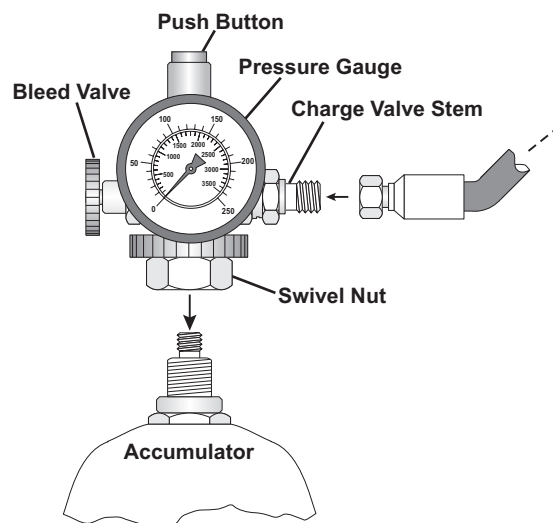

Figure 37
5. On the charge valve assembly (Figure 37), close the bleed valve (turn it clockwise all the way in). If a hose is connected to the charge valve stem, disconnect the hose from the charge valve stem. This step closes the charge valve stem to prevent the gas pressure from escaping out of the hose. It ensures that the initial pressure reading is accurate.
6. Find the swivel nut on the charge valve assembly (Figure 37). Screw the swivel nut onto the accumulator gas valve. Tighten to 10 to 15 in-lbs.
7. After the swivel nut is attached, depress the push button on the top of the charge valve assembly (Figure 37). This presses a pin into the accumulator gas valve and opens it. Read the pressure on the charge valve assembly pressure gauge. The pressure should read 103 bar (1500 psi).